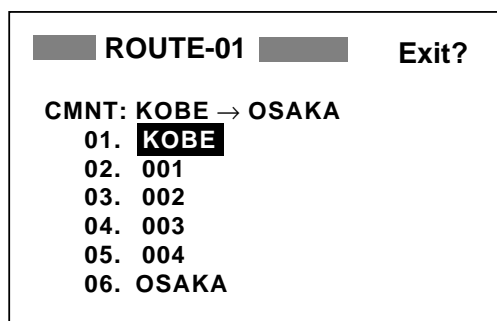

Figure 4-8 ROUTE screen
5. Select the waypoint which will come after waypoint to be inserted. In Figure 4-8, for example, if you want to insert a waypoint between KOBE and 001, select 001.